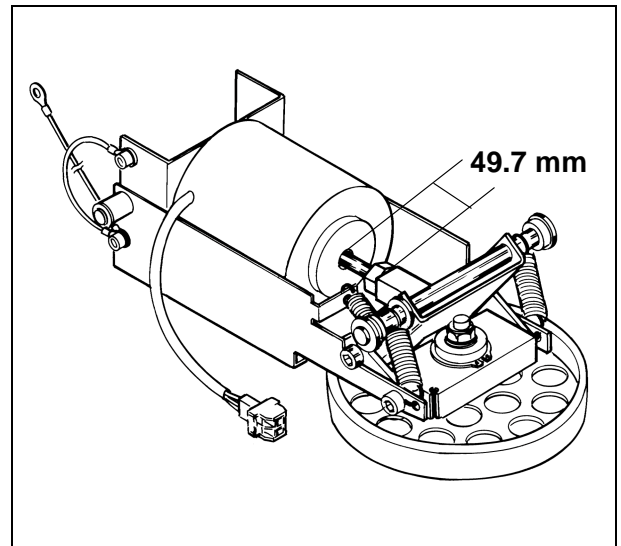

Fig. 16
- Check all springs for correct mounting and damage (Fig. 16).